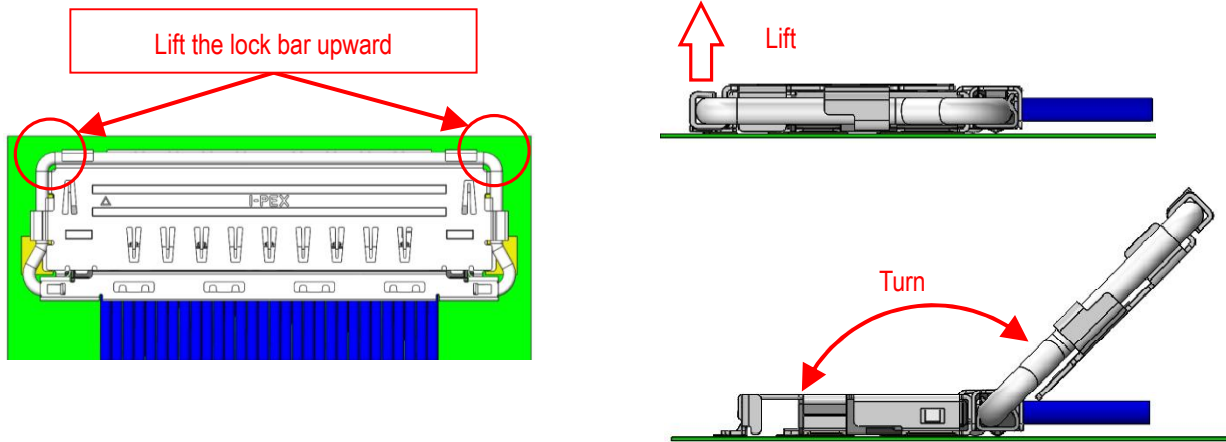

Fig.14
- ① Lift the circled positions of the pull bar upward to release the lock. Then, turn lock bar assembly as shown in Fig.14.